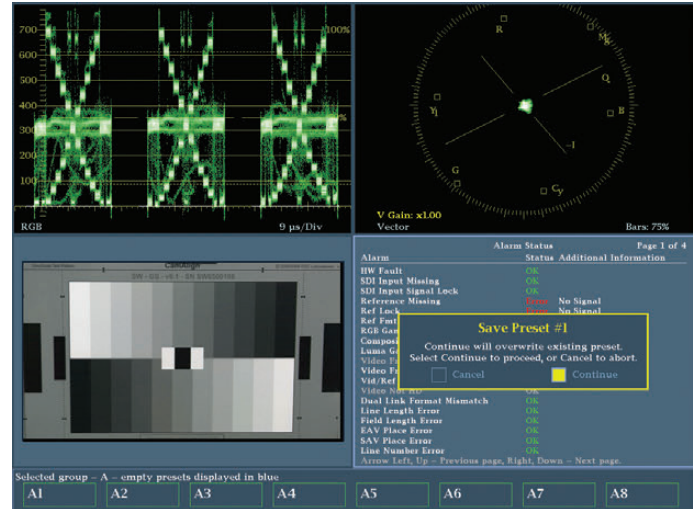

Figure 6-8. Steps 17-19 of “Creating a Preset” end with saving the preset to a specific preset location.
19. This will call up a dialog called Save Preset #1. It asks “Continue will overwrite existing preset. Select Continue to proceed, or Cancel to Quit”. Use the left and right arrow keys to choose to save or cancel. If you want, you can cancel and choose another location to save this preset. To save under a different location, just hold down the button (WFM, VECTOR, PICT, AUDIO, GAMUT, STATUS, MEAS, OTHER) corresponding to the soft-key Preset location where you want the preset saved. Use the right and left arrow keys to select the Continue option (yellow highlight in box next to Continue) and press the SEL button, which is in the middle of the left, right, up and down arrow keys. This preset may be given the name A1 on a brand new waveform monitor. If the waveform monitor has had Presets created and saved on it before, the name may be left the same as the Preset that was previously in that position (Figure 6-8).